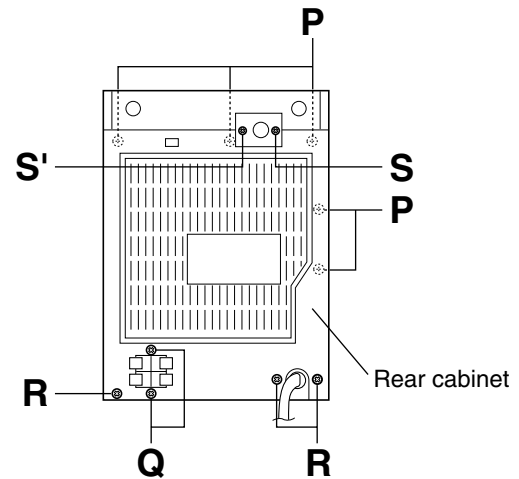

Fig.18
(See Figs. 18 and 19.)
1. From the inside of the main body, remove the five screws **P** retaining the bracket. (See Fig.18.)
3. From the rear side of the main body, remove the two screws **Q** and three screws **R** retaining the rear cabinet. (See Fig.18.)
4. Remove the screw **S** and screw **S'** retaining the FM antenna board and earth wire. (See Fig.18.)